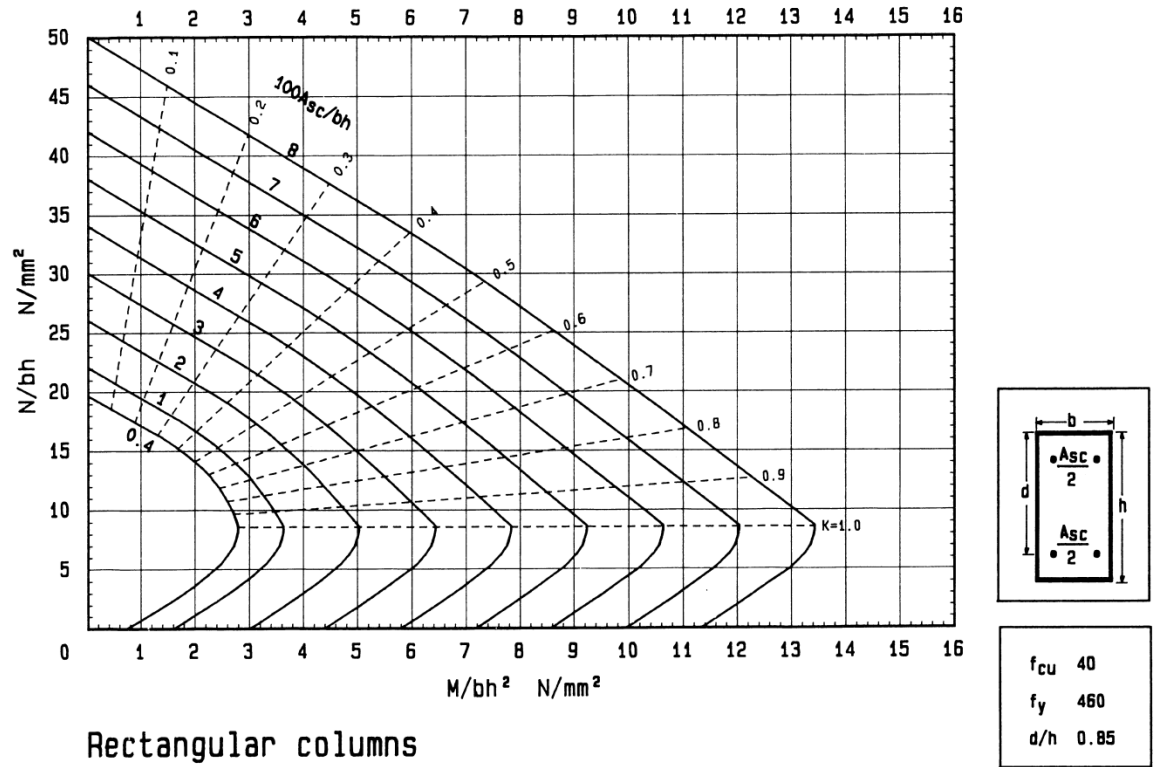

Figure 4.1: Rectangular columns design chart
- (b) Using chart Figure 4.1, design the longitudinal reinforcement for a 500 x 200 mm column section if: